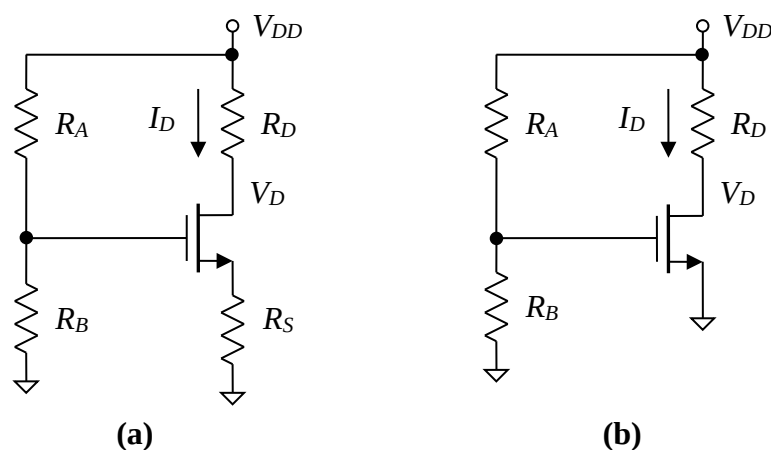

Figure 1. MOSFET biasing circuits that (a) uses a source degeneration resistor R_S or (b) fixes the value of the gate-to-source voltage.
- Design a four-resistor bias circuit like the one shown in Figure 1 for a 2N7000 *n*-channel enhancement-mode MOSFET (i.e., find values for R_D , R_S , R_A , and R_B). Bias control is usually used in amplifier circuits. Thus, you may assume that the specifications below apply when the MOSFET operates in the saturation region. The design specifications are listed at the top of the next page.